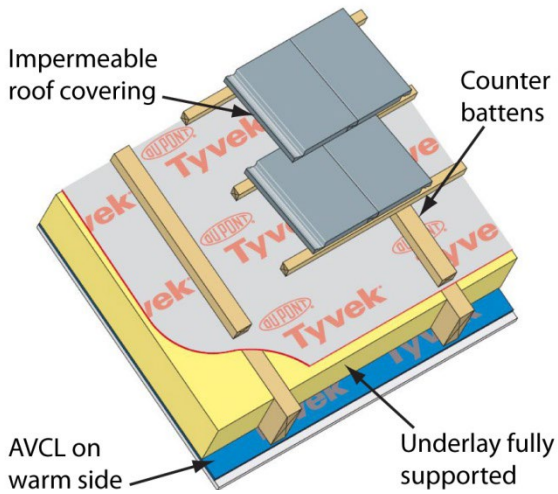

Figure 7
7. Warm roof - Non-ventilated (vapour impermeable covering) (Figure 7)